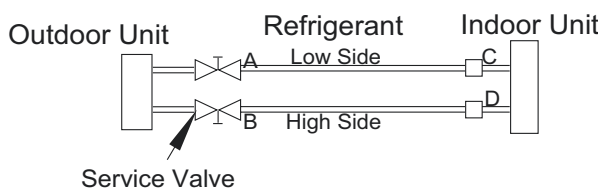

Fig. 9 —Service Valve
1. Completely tighten flare nuts on the line set at both the indoor and outdoor units. **DO NOT** open the service valves on the outdoor unit for the new installation or the replacement unit. Open the service valves on the outdoor unit if repairs have been made to the refrigerant sealed system. Connect the manifold gauge low pressure hose to the charge port of the gas side service valve (see Fig. 9).